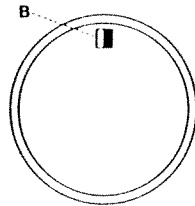

Fig. 19
1. The utility stitch chart has two colour ranges, white and red. For "white" utility stitches turn the colour range selector until mark **B** (Fig. 19) is at the top, for "red" utility stitches turn the selector until mark **B** is at the bottom.